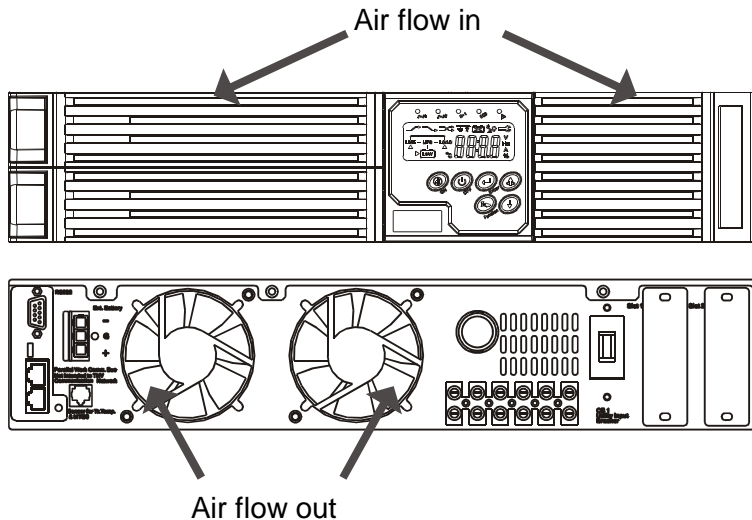

Fig 2-2
2.2.1.2. The design of the air flow of the convertible UPS is to flow in from the front ventilation holes to the rear ventilation holes as indicated in Fig. 2.2.